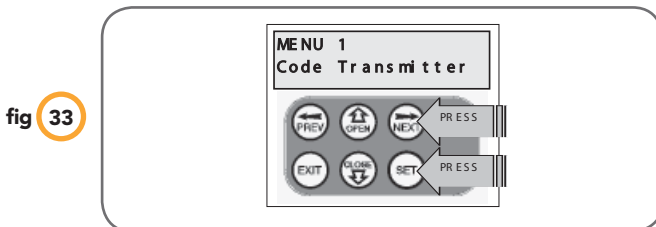

fig 33
1. Press NEXT to navigate to the Menu 1 (Fig. 33).